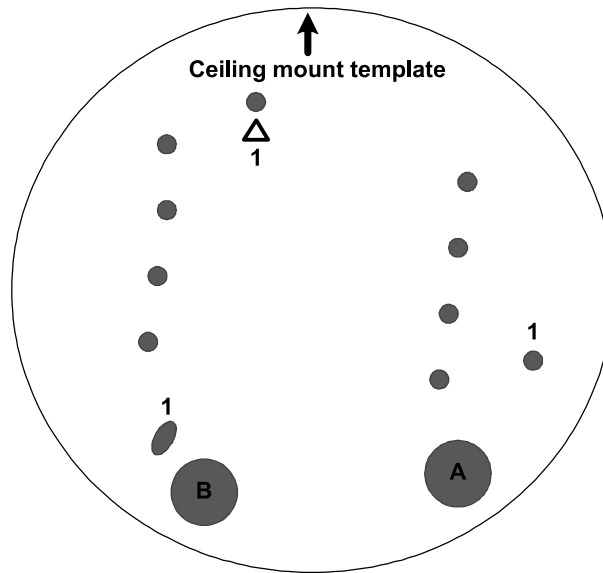

Figure 11-10
- D. Depending on how you want to run the wires (see step 4). Drill the right hole (Figure 11-10) for position A and the left for position B or both if required.